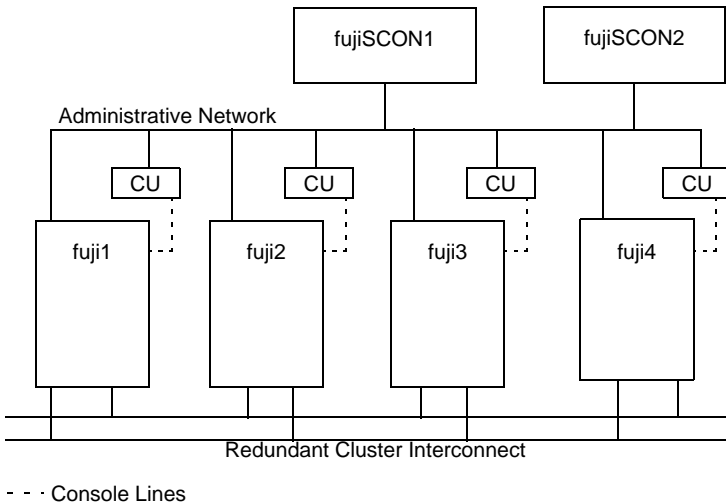

Figure 94: Distributed cluster console
A distributed cluster console configuration is one in which there is more than one cluster console and each cluster console has access to a selected subset of the console lines for the cluster nodes. Note that the console line for each cluster node may only be accessed by one cluster console. A distributed cluster console configuration is depicted in Figure 94.
i The conversion unit (CU) in Figure 94 represents a generic conversion unit, which is responsible for converting serial-line to network access and represents either the RCA or RCCU units.